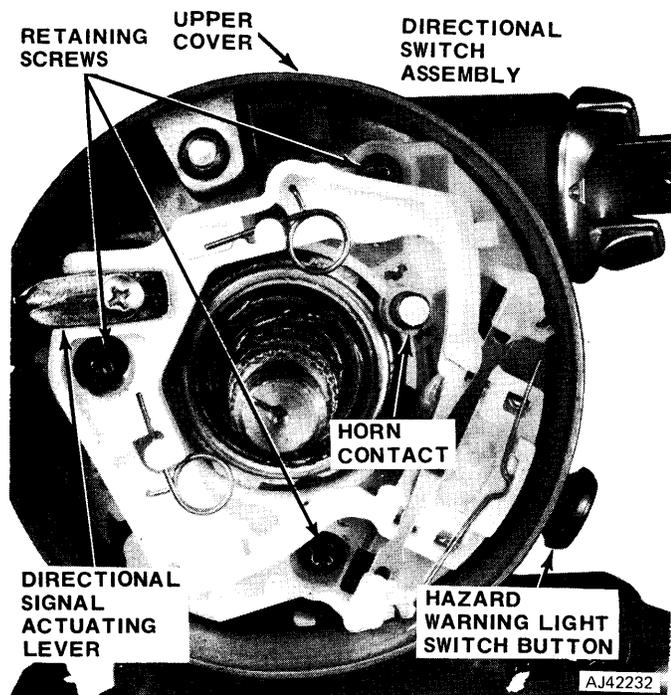

Fig. 3-82 Directional Switch
- (10) Place directional signal actuating lever in right turn position and remove lever.
- (11) Depress hazard warning light switch, located on right side of column adjacent to the key lock, and remove button by turning in a counterclockwise direction.
(12) Remove directional signal wire harness connector block from its mounting bracket on right side of lower column.
(13) Remove directional signal switch retaining screws and pull directional signal switch and wire harness from column (fig. 3-82).